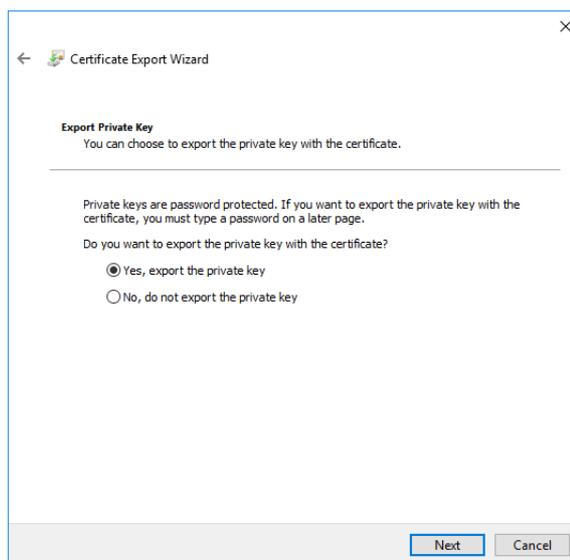

Figure 2-41. Selecting export of private key
6. Choose to export the private key, see Figure 2-41.